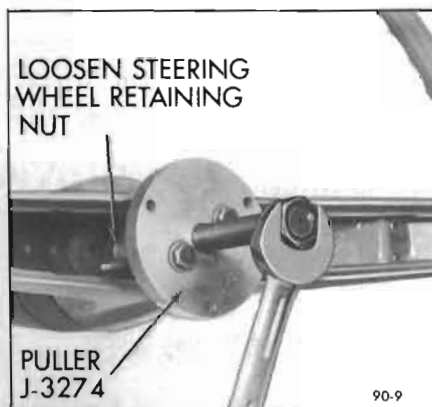

Figure 90-9—Removing Steering Wheel
7. Attach Puller J-3274 to wheel hub and pull wheel up to nut. See Figure 90-9. If wheel hub is very tight on shaft, apply a moderate strain with puller then rap on end of puller screw to break hub loose from shaft. Remove puller, nut, and steering wheel.